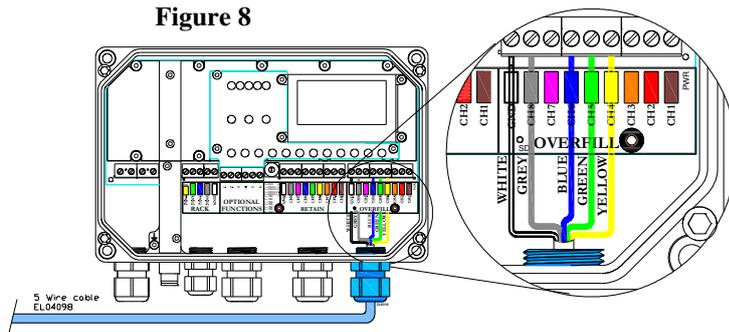

**Figure 7**
Number 1 must be used for power from the main Truck battery. OPW recommends the use of screened cable with matching cable gland or conduit. (number 2 is used for pressure sensing) The third (3) is an M16x1,5 threaded entry. Via a cable gland or conduit the 5-wire Rack interface can be connected to the socket, see **Figure 4** for details. Entry (4) is designed to feed true the cable for the retain (bottom) sensors. See **Figure 7**. The last and most right located cable entry (5) can be used for the overfill sensors.
Information how to mechanical install the retain sensor can be found in the sensor-box. Detailed wiring information can be found in **Figure 7**. The common (white) wire needs to be connected to the first terminal (left) from the retain terminal. The sensors are connected according the colour code mentioned in the NEN-EN13922. The retain sensor located nearest to the front of the truck is compartment one (1). The brown wire should be connected to the corresponding terminal. The common white wire of the sensors to the common white marked terminal.